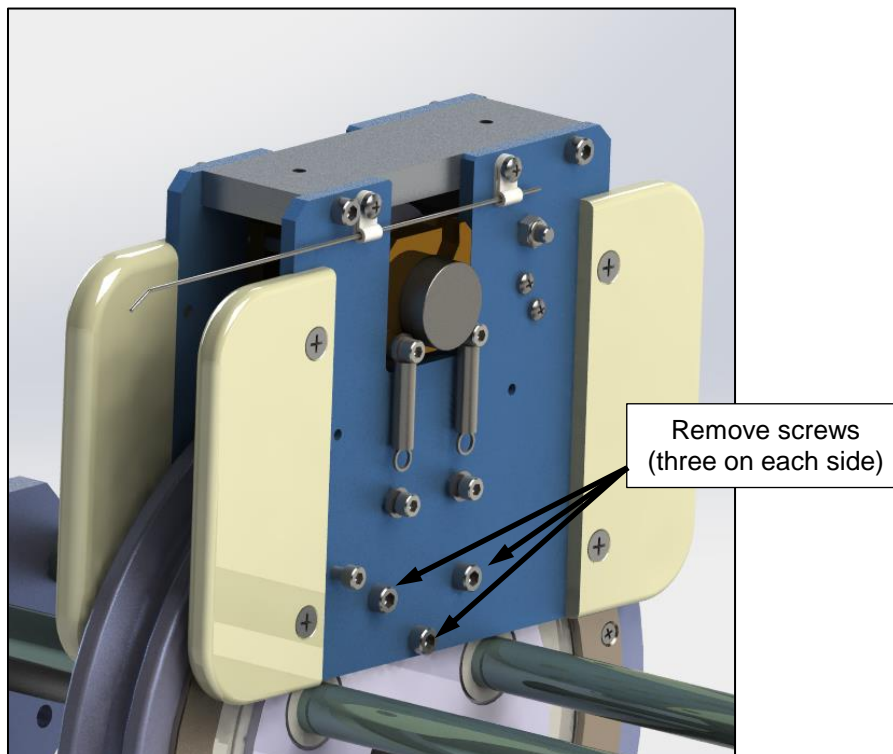

FIGURE 23: AUTO LEVEL WIND TETHER REMOVAL
- i. Unscrew the cable guide / encoder assembly from the sheave (six M6x16mm socket cap screws, three each side). See Figure 23 below.